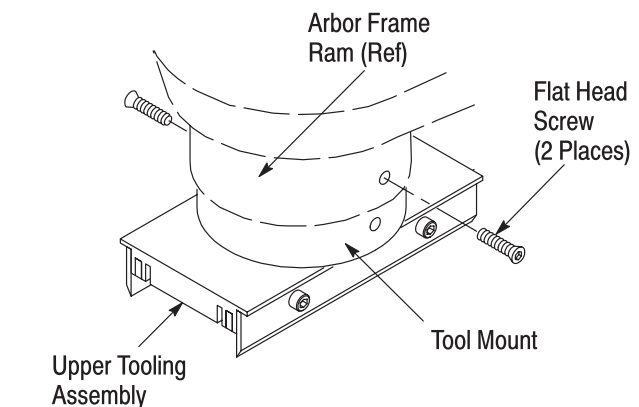

Figure 4
5. Place the upper tooling assembly and tool mount onto the ram, and tighten the flat head screws. Refer to Figure 4.